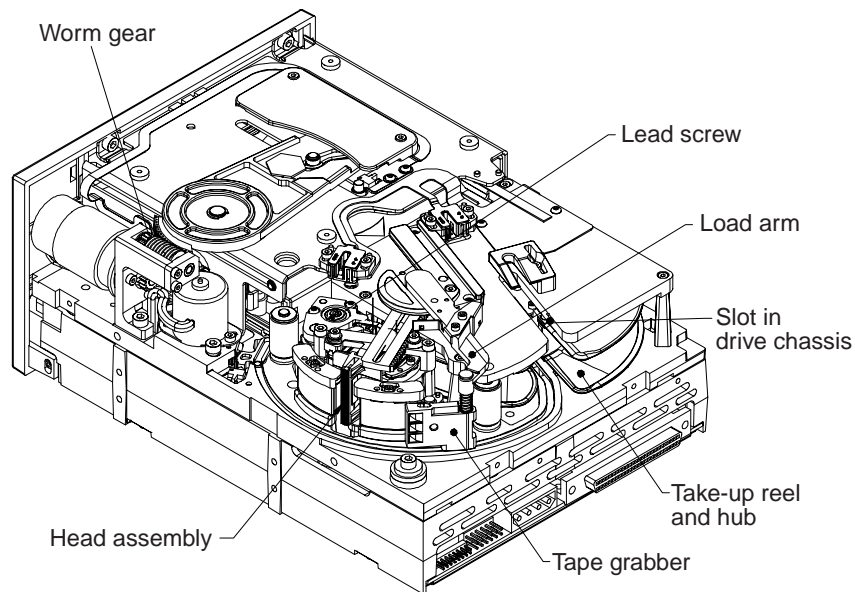

Figure 18. Diagram of Viper 200 showing key components used in manual cartridge removal (no tape cartridge in drive)
Follow these steps if the cartridge is loaded and seated, and the tape is entirely or partially threaded into the drive. You will need a small, flat-blade screwdriver and a 1.5-mm hex wrench. Figure 18 shows key components of the drive mechanism that are referred to in the text below.
6. Rotate the hub to align the slot in the hub with the slot on the drive chassis (see Figure 18).